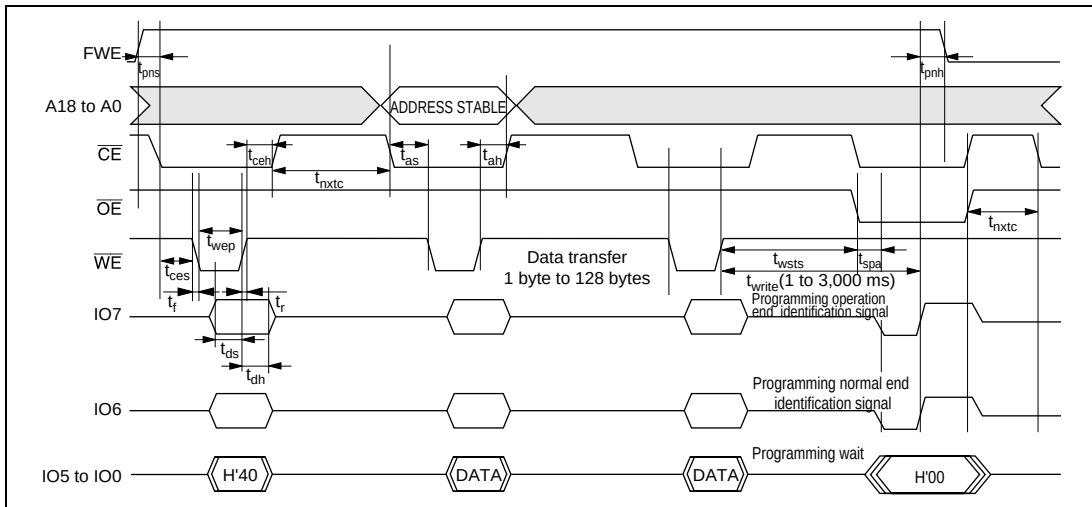

**Figure 7.20 Auto-Program Mode Timing Waveforms**
- Memory address transfer is performed in the second cycle (figure 7.20). Do not perform transfer after the second cycle.